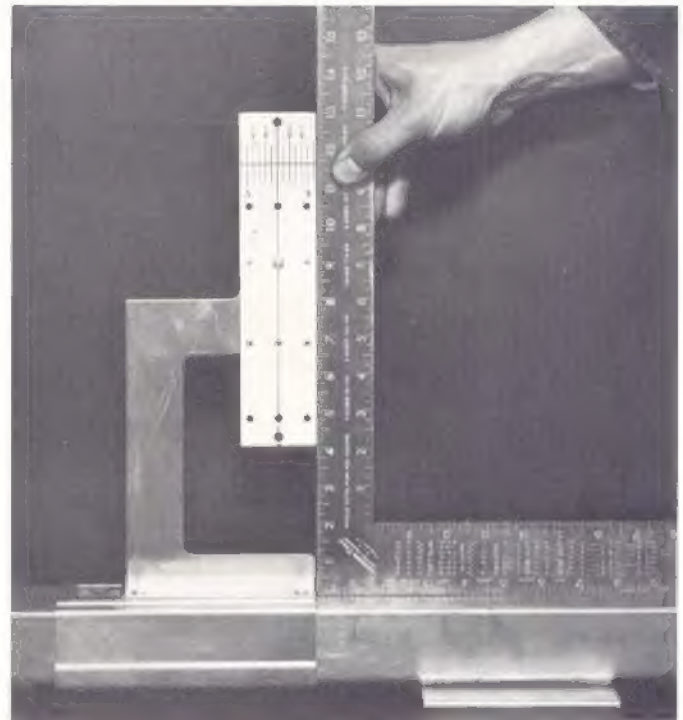

FIGURE 12
2. **TO CHECK REAR TOE GAGE (Supplied as an accessory):** Use a carpenter square to check the squareness of the flags with the toe gage channel. (See Figure 12). It may be necessary to straighten or shim the flags if they are bent.